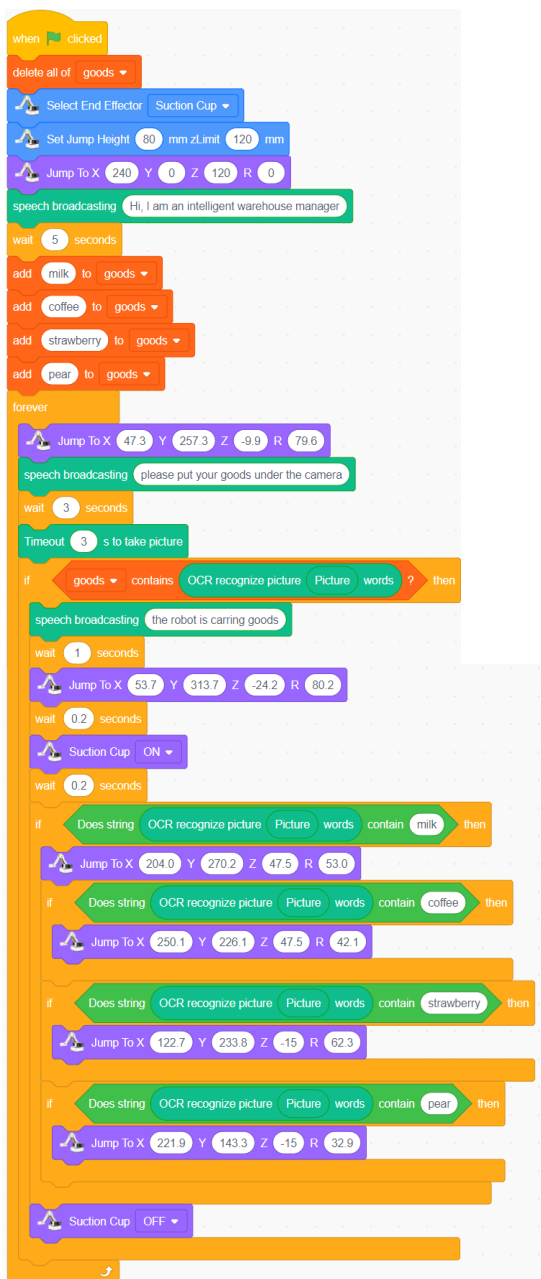

Figure 1.15 The completed program of warehousing goods system
Step 10: There is usually more than one goods that needs to be stored in the warehouse, and different products need to be identified repeatedly; until the program stops running, the goods storage operation is stopped, as shown in Figure 1.15.